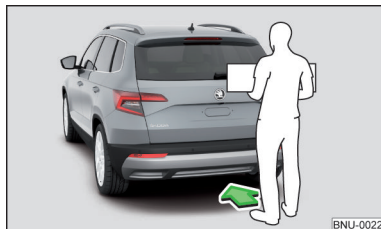

Fig. 56
► To **open/close**, move one foot in the sensor area below the rear bumper quickly in the direction of the arrow » Fig. 56.